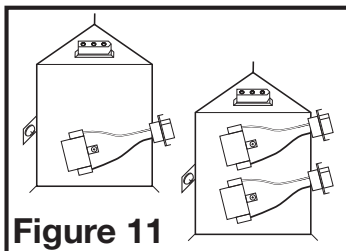

Figure 11
- 3a. **STANDARD MODELS:** Plug the fan's 2 pin and 3 pin quick connect motor cords into the corresponding receptacle located on the wire compartment cover. These cords will only fit one way into the receptacles (**Figure 11**).